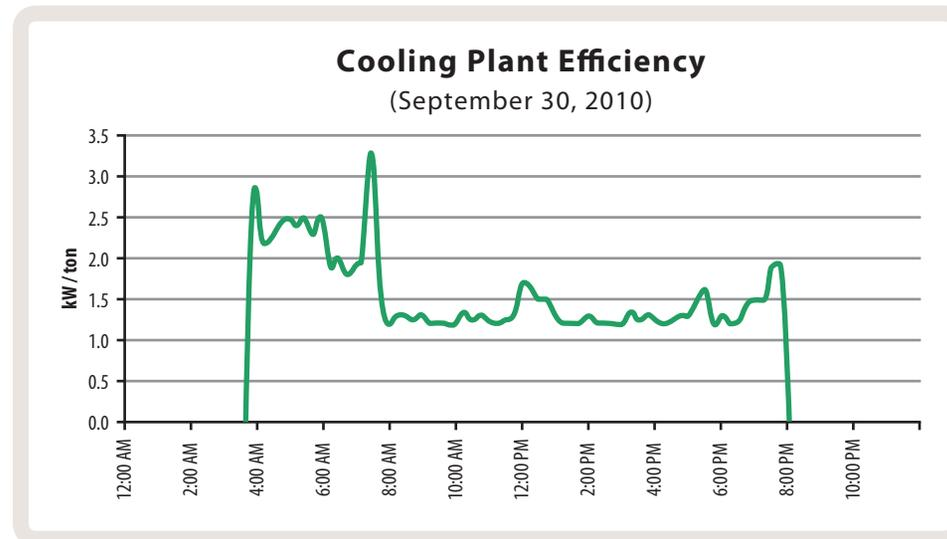

Figure 11: An example of metric tracking: kilowatt per ton trends shows cooling plant efficiency over time
- Trends may be plotted to show daily/weekly/monthly/annual patterns (Figure 11 gives an example)